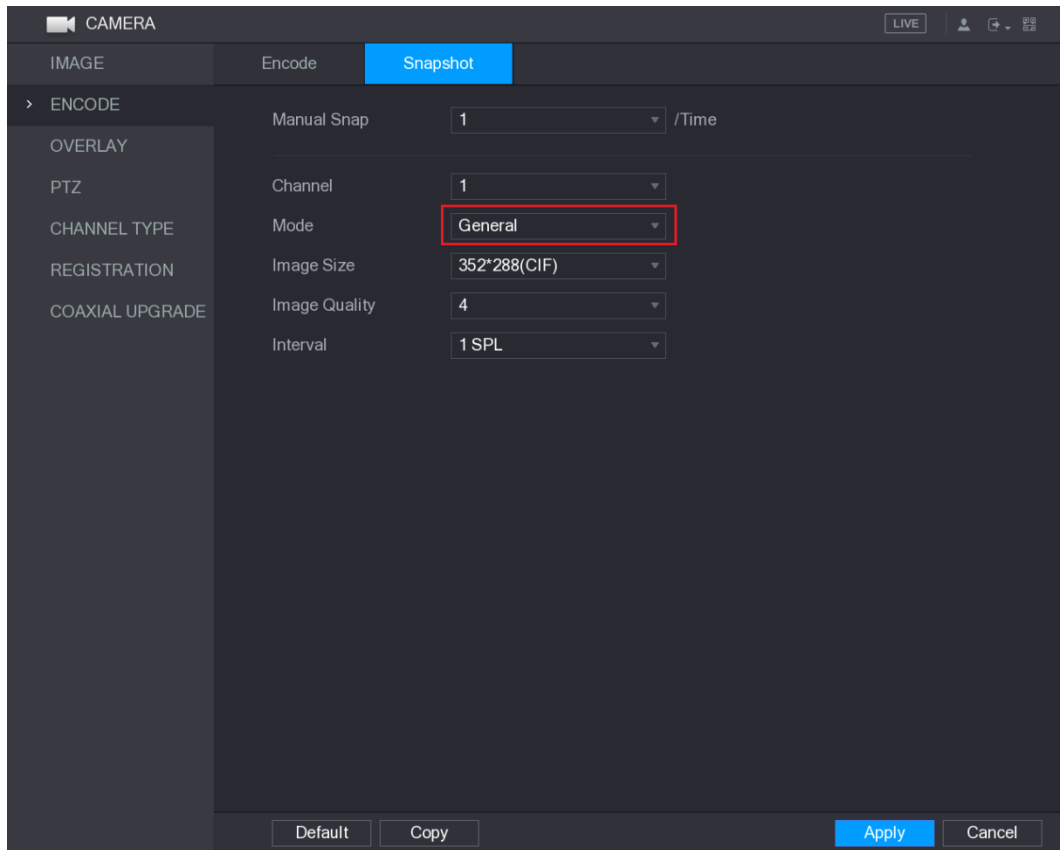

Figure 5-90
Step 5 In the **Mode** list, select **General**, and then configure other parameters. See Figure 5-90.